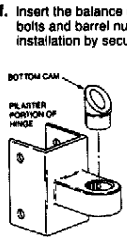
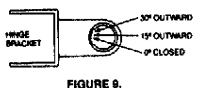

FIGURE 8.
FIGURE 9.
- Insert bottom nylon cam into the pilaster portion of the hinge bracket assembly. See figure 8. The cam should be set to same desired position on upper and lower hinge assemblies. See figure 9.